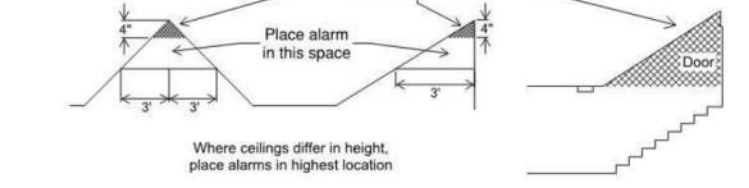
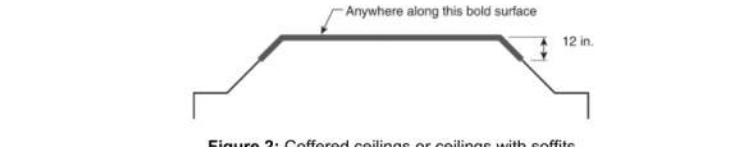

Figure 1: Smoke Alarms and Smoke Detectors in Peaked/Sloped Ceilings
Figure 2: Coffered ceilings or ceilings with soffits.
- Alarms and detectors in a **peaked ceiling** must be within 36 inches horizontally and no closer than 4 inches vertically to the peak. Avoid placing alarms in **dead air spaces**; refer to Figure 1. (NFPA 72 29.11.3.1)
- Alarms and detectors mounted on a **sloped ceiling** having a rise greater than 1-foot in 8-feet horizontally (1:8) shall be located within 36 inches of the high side of the ceiling, but not closer than 4 inches from the adjoining wall surface. Refer to Figure 1. (NFPA 72 29.11.3.2)
- Where **stairs lead** to other occupable levels, alarms and detectors shall be located so that smoke rising in the stairway cannot be prevented from reaching the alarm or detector by an intervening door or obstruction. For stairways leading up from a basement, alarms and detectors shall be located in the **basement ceiling** near the entry to the stairs. Refer to Figure 1. (NFPA 72 29.11.3.4 (1), (11))
- Alarms and detectors installed in rooms with **joints or beams** shall comply with NFPA 72 17.3.2.4 and 17.6.3. (NFPA 72 29.11.3.4 (3), (14))
- For **coffered ceilings** (and ceilings with soffits), alarms and detectors shall be installed on the high side of the ceiling or on the sloped portion of the ceiling within 12 inches vertically down from the highest point. Refer to Figure 2. Provide the manufacturer's installation instructions to confirm the maximum horizontal distance from the alarm or detector. (NFPA 72 29.11.3.4 (12))